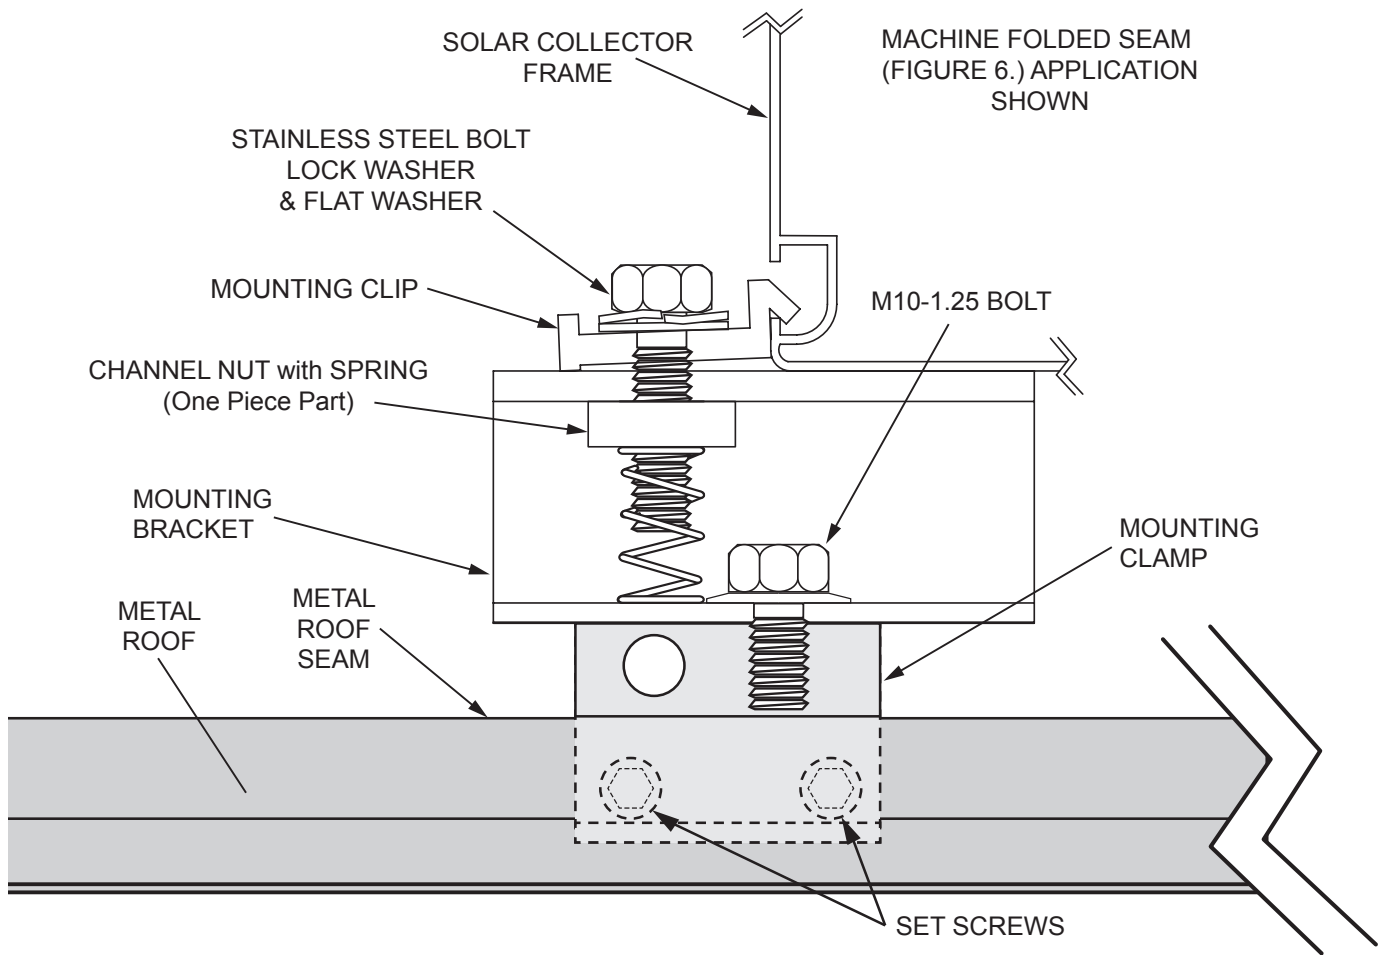

Figure 7.
structural members of the roof with the stainless steel hardware provided. The solar collector must be attached to the mounting hardware. See Figure 7.
7. Install the solar collector mounting bracket to the mounting clamp as shown in Figure 7. Use the M10-1.25 bolt included with the mounting clamp. See Figure 7 for general component locations.
Once all of the mounting brackets have been secured to the roof the solar collector(s) can be installed. See Figure 7 for these instructions.